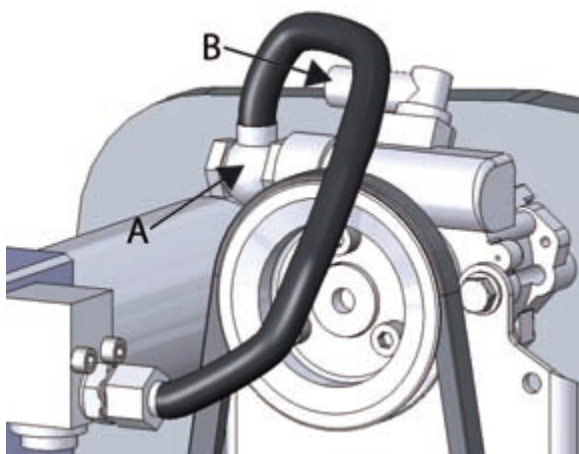

Figure 68. Hoses of the hydraulic pump
1. Remove the hydraulic pump pressure hose (figure 68, point A) and suction hose (figure 68, point B) and drain the oil into a container.
5. Install the pressure hose (figure 68, point A) and return hose (figure 68, point B).